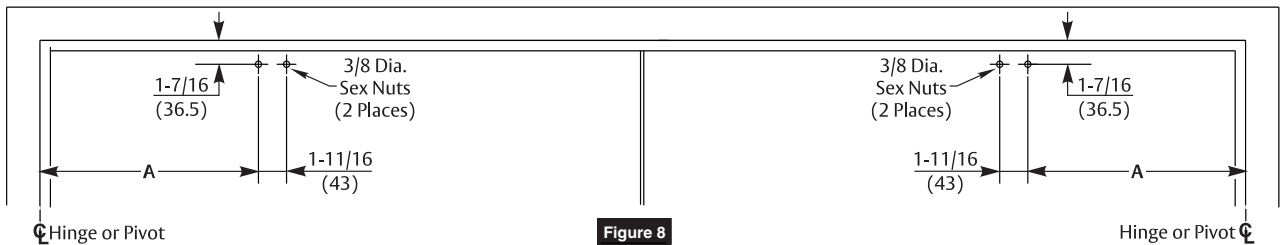

Figure 8
- Locate and prepare adjusting tube and shoe holes in doors. (Figure 8)